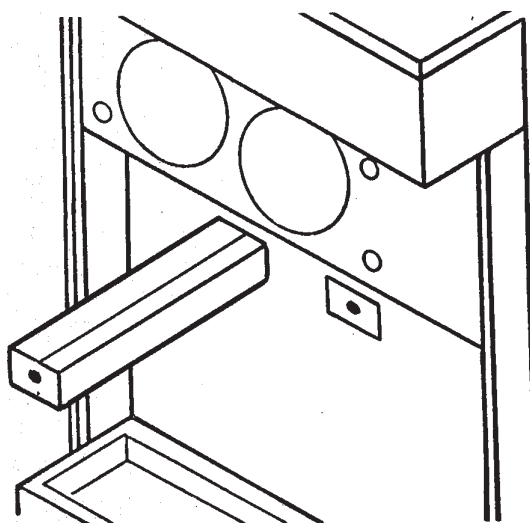

Figure 30. Drain Trays
- L. Install the drain trays (Fig. 30).